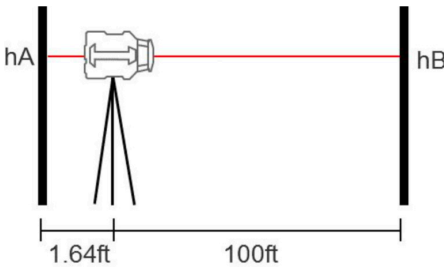

Figure 2
1. Set up the instrument between 2 walls (or 2 grade rods) about 30m from each other. Set it closer to one wall than the other as shown below (Figure 2).